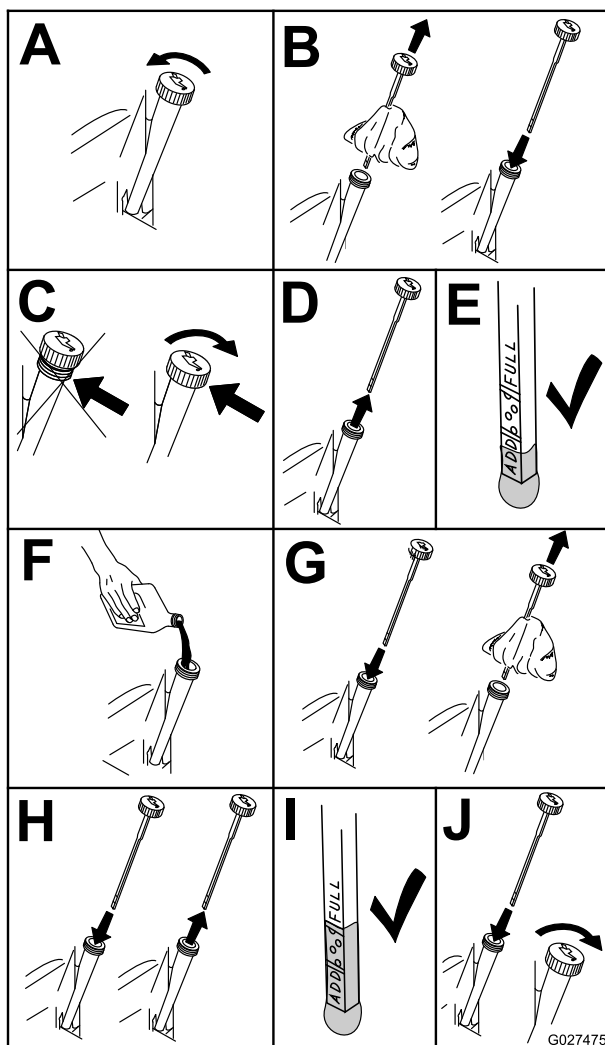

Figure 35
4. Check the engine-oil level (Figure 35).